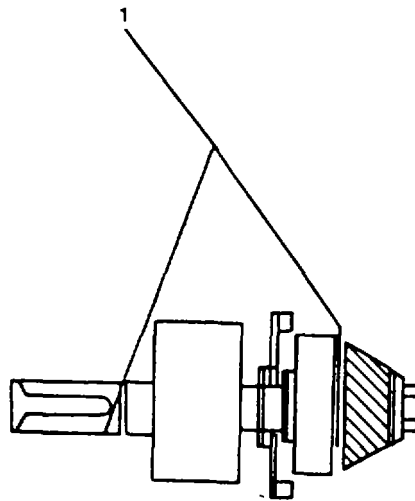

FIGURE 4-32. *Lifting Points High Speed Shaft Assembly.*
- (2) Lift intermediate speed pinion vertically while exercising care as pinion is disengaged from lower gear box housing.
- (3) Position pinion on a clean flat surface for disassembly.
- (4) For disassembly procedures of intermediate speed pinion, refer to DISASSEMBLY task, step c.
f. High Speed Shaft Assembly. (FIGURE 4-32)
- (1) Attach lifting sling (1) to lifting points on high speed shaft.
- (2) Lift high speed shaft vertically while exercising care as shaft assembly is disengaged from lower gear box housing.
- (3) Position shaft assembly on a clean flat surface for disassembly.
- (4) Remove lifting device and sling.
- (5) For disassembly procedures of high speed shaft assembly, refer to DISASSEMBLY task, step d.